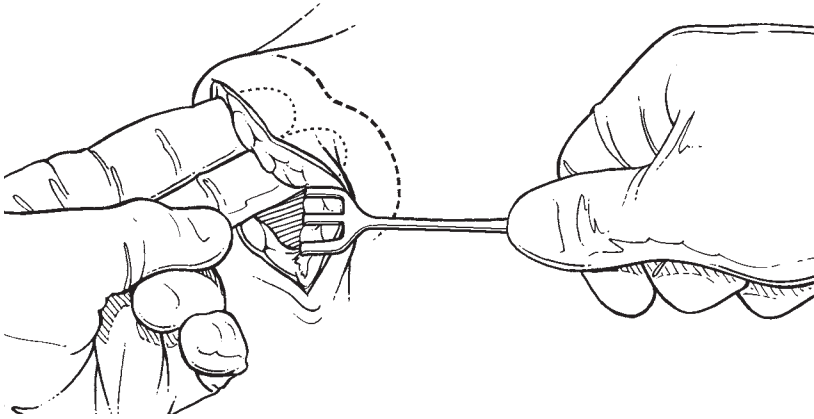

FIGURE 38
- 3 Use blunt dissection and/or electrocautery to create a subcutaneous pocket and to maintain hemostasis (FIGURE 38).